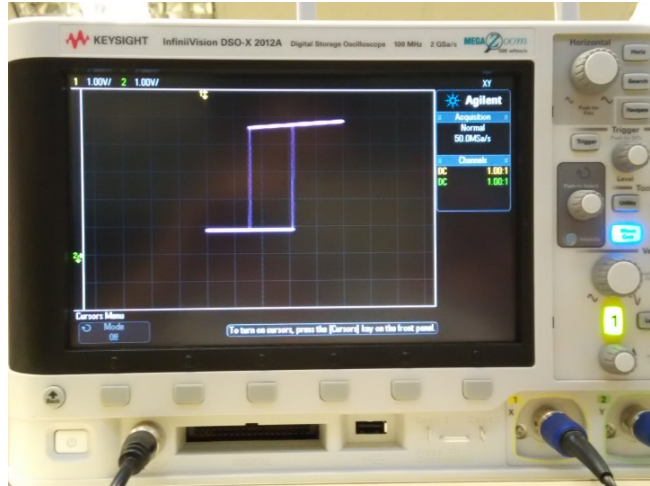

Figure 8: Waveform under XY Time mode.
- 5) Press the **Horiz** button (on the top of oscilloscope panel near the **Horizontal** knob). Select **XY** Time mode. The waveform displayed on the oscilloscope should be similar to Figure 8.